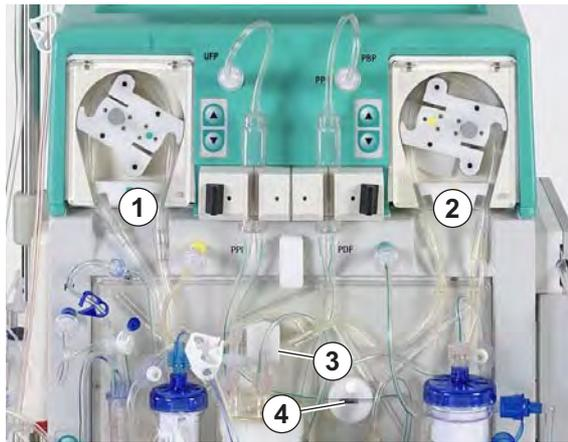

Fig. 5-9 Installing the pump segments
4. Place pump segment of ultrafiltration line into ultrafiltration pump (white marking on left, Fig. 5-9, ①).
5. Place pump segments of plasma and buffer line (marked brown and yellow) successively into plasma/buffer pump (Fig. 5-9, ②).
7. Insert plasma line, coming from plasma filter, into blood leak detector (BLD, Fig. 5-9, ③).
8. Firmly insert filtrate line to heparin adsorber into heparin adsorber clamp (HAK, Fig. 5-9, ④).